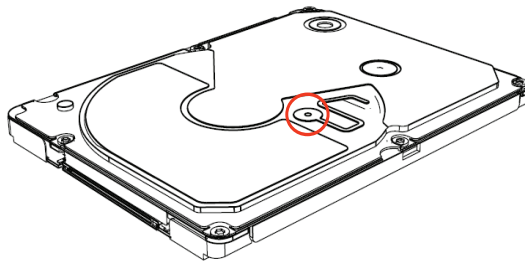

Figure 5. Lyrion Series breather hole location
- Do not obstruct the breather hole on the drive (see Figure 5).